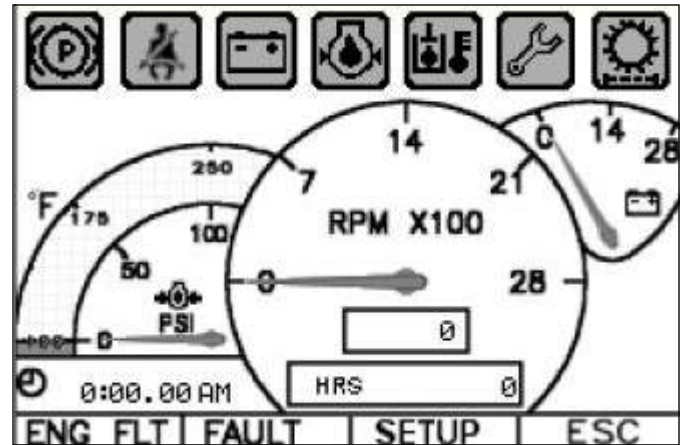
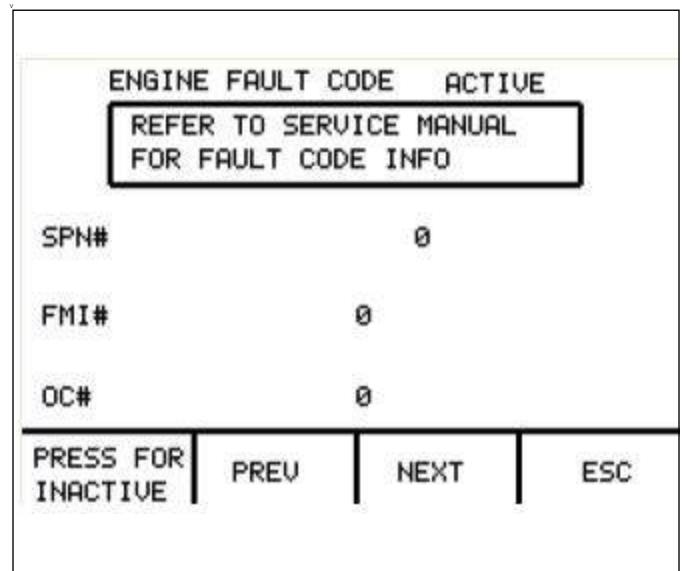

Figure 4-25: Sub Menu Screen
Figure 4-26: Engine Fault Code Screen
6. Turn ignition “ON” and start the forklift. The display shown below will be displayed. **See Figure 4-25.**
When a “Service Required” warning indication is given press the “ENG FLT” button located at the bottom of the display, **See Figure 4-25.** Obtain the SPN# fault information from the display as shown, which can be used in correlation with the Diagnostic Trouble Charts provided on starting on page 5-12. **See Figure 4-26.** Press the left button to change between “Active” and “Inactive” engine faults.
- For Calibration of forklift functions first press the "SETUP" button located at the bottom of the display. See Figure 4-25.